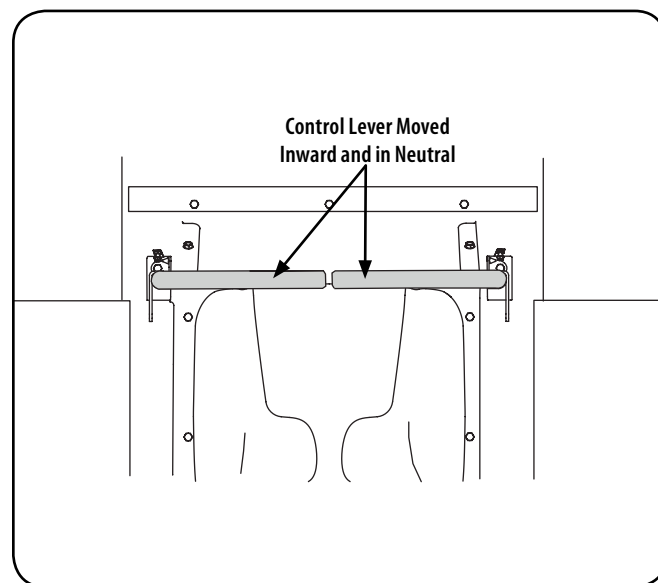

Figure 10
2. Move the RH and LH drive control levers inward in the neutral position. Refer to Figure 10.